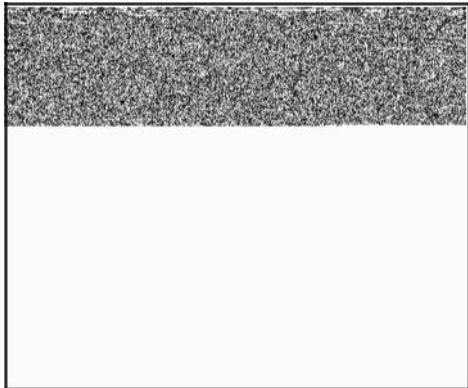

Figure 11
1. Install the screws to the blower housing (**D**, Figure 11), torquing screws to values listed in Section 12 - Engine Specifications.